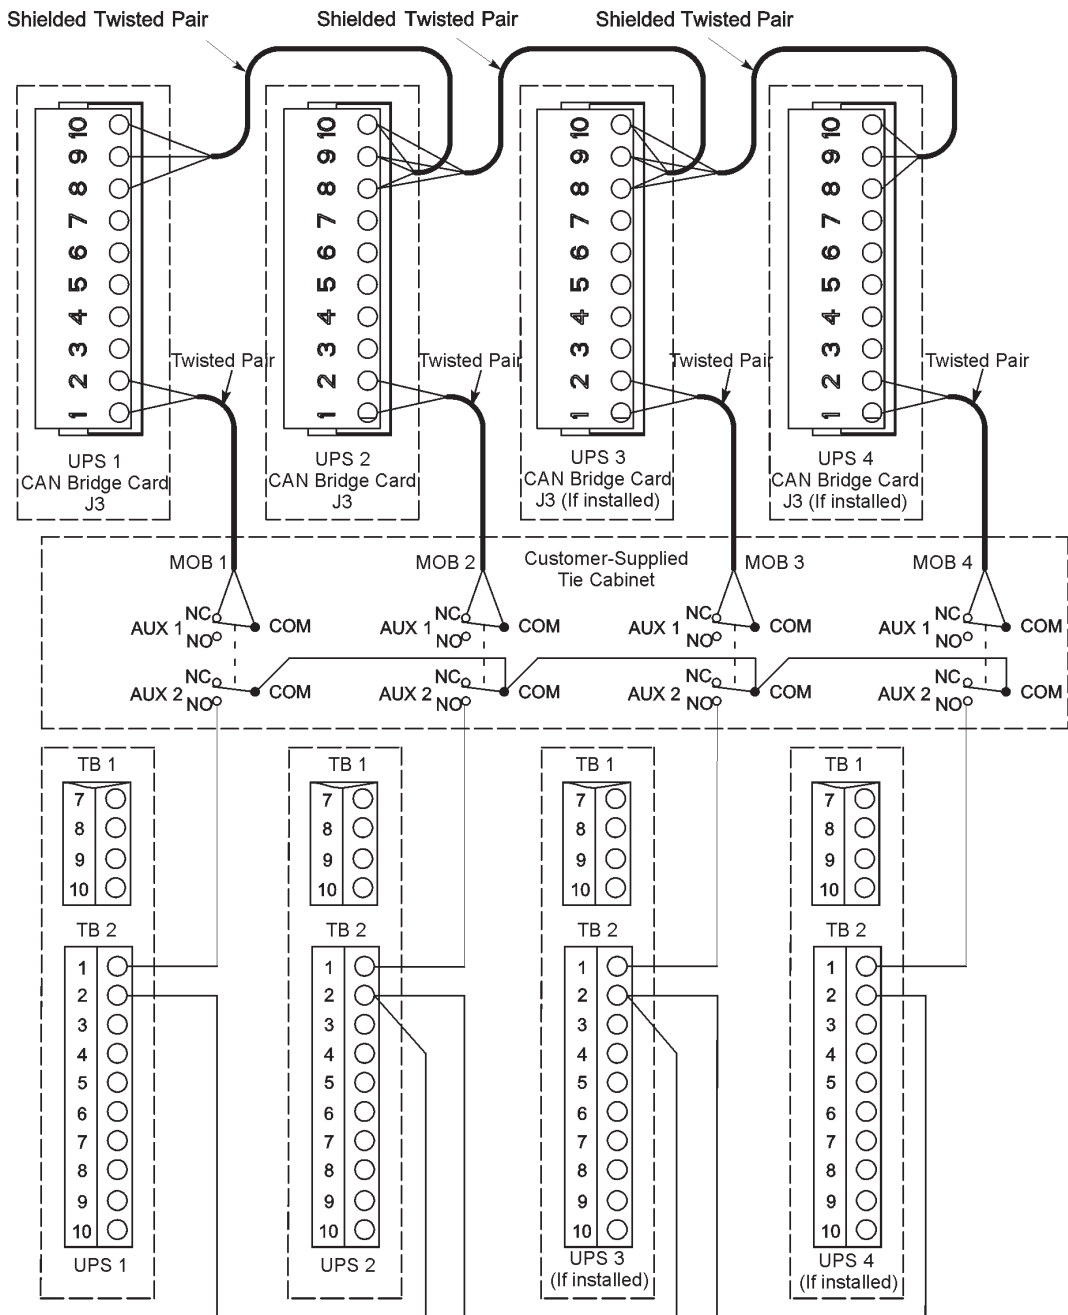

Figure 5-6. Distributed bypass Pull-Chain wiring with MOBs
12. Route and install distributed bypass system pull-chain wiring between the UPS cabinets and tie cabinet MOBs. See Figure 5-6 on page 75 and Table 5-4 on page 76 for wiring information.